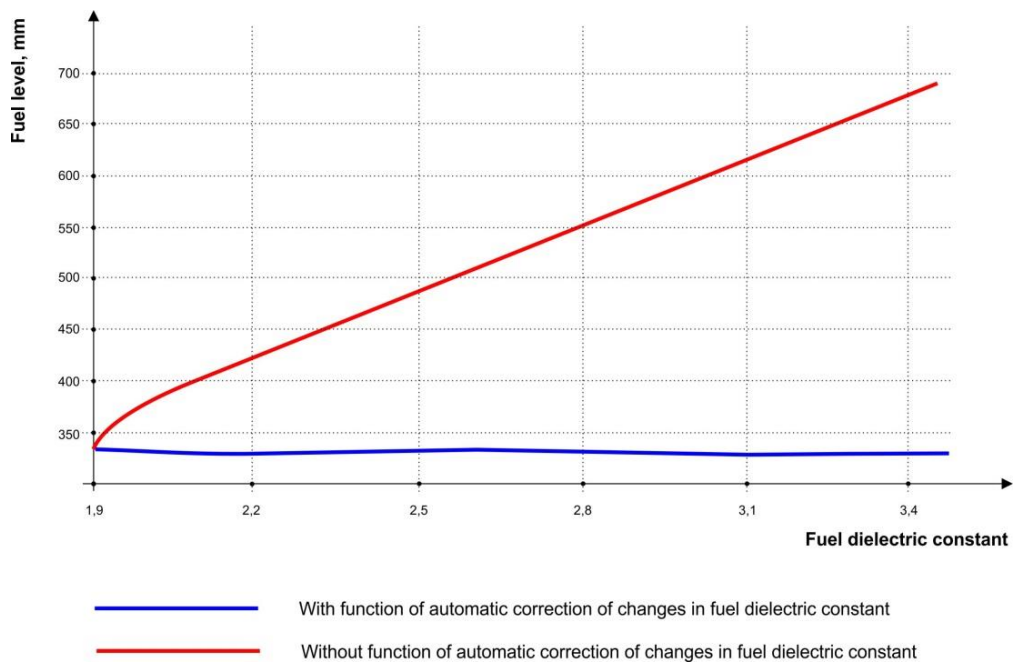

Figure 4 — Example of data comparison of corrected and uncorrected fuel levels
**IMPORTANT:** Function of automatic correction of fuel dielectric constant allows to control fuel level in the tank with higher accuracy regardless the type of fuel (see figure 4). **Procedure of fuel tank re-calibration is not required with DUT-E 2Bio!**